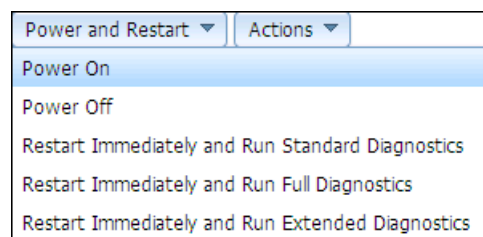

Figure 7-9 Power and Restart button
- **Power and Restart** option allows you to perform the actions shown in Figure 7-9.